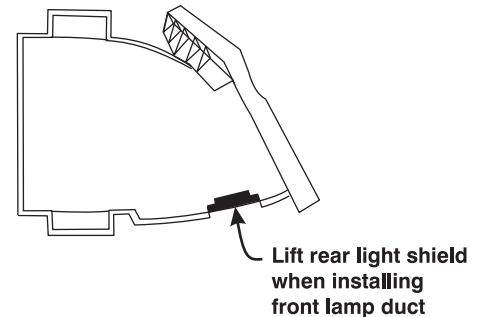

Figure 7-3 Light Shield on Front Lamp Duct
**NOTE:** It is critical that you lift the small light shield on the rear lamp duct cover so that it does not get jammed between the two pieces when they come together. (Figure 7-3) To ensure a good fit between the two pieces, squeeze the top and bottom cover snaps to ensure they are locked in place. The light shield should move freely to the touch.